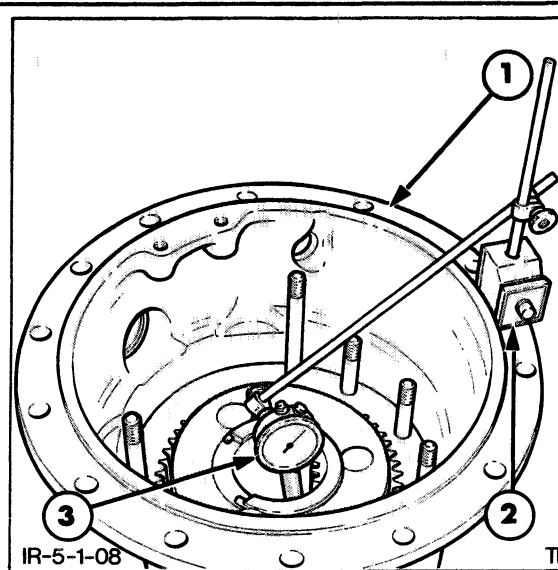

FIGURE 5-8
- b. Set up a dial indicator as shown in Figure 5-8. It will be necessary to use an extended plunger on the dial indicator to enable a reading to be taken from the top of the axle shaft bolt.